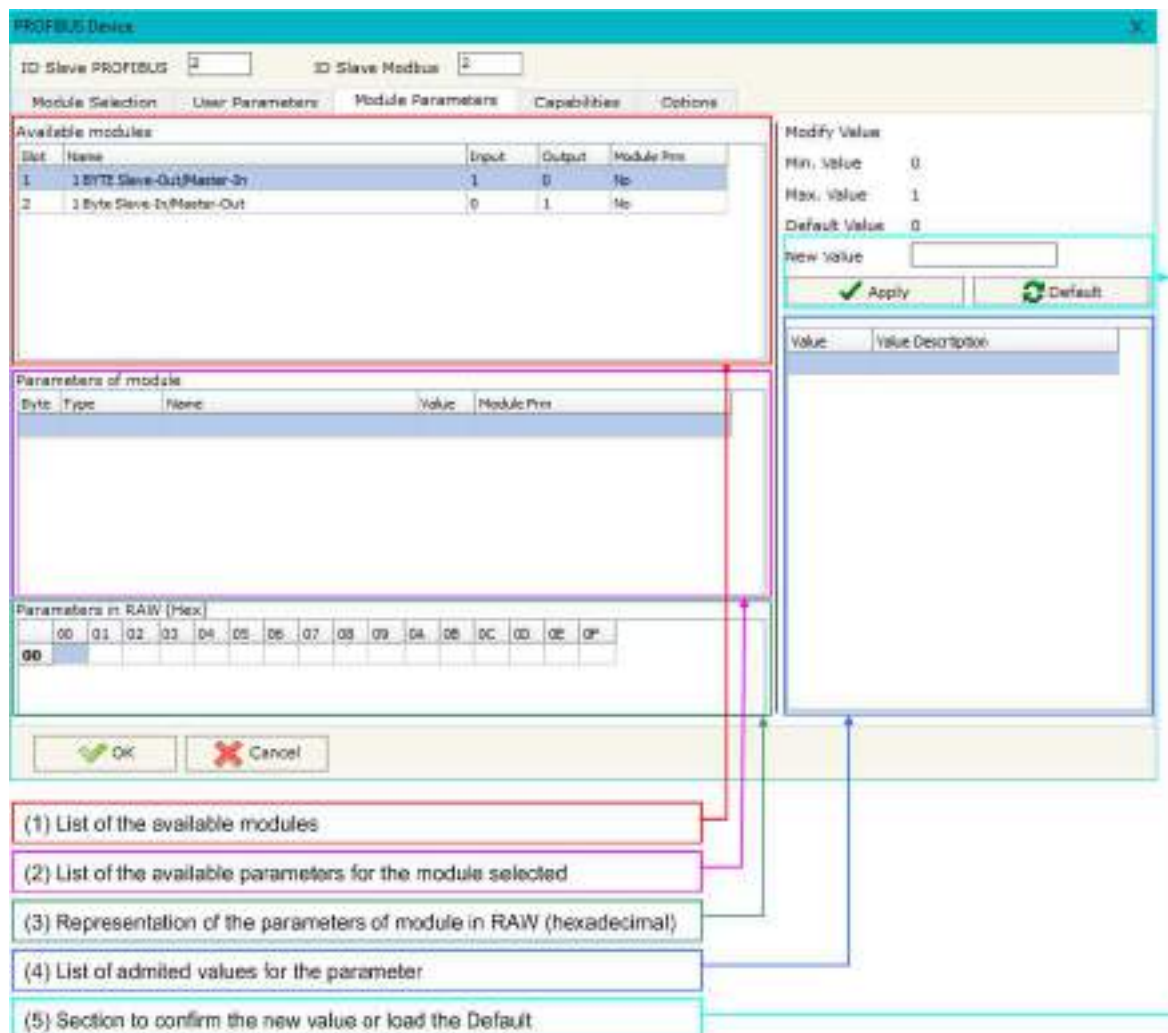

Figure 11: “PROFIBUS Device – Module Parameters” window
The section “Module Parameters” is used to modify the parameters of the Modules (Fig. 11).
- The List of all Module selected in the GSD file (“Available modules”) (Fig. 11, point (1));
- The List of all Parameters available for the Module selected (“Parameters of module”) (Fig. 11, point (2));
- The Configuration of all parameters in RAW for the Module selected (“Parameters in RAW (Hex)”) (Fig. 11, point(3));
- The admitted value for the selected parameter. It is possible to select the value desired and confirm it with the “Apply” button. If no value appears in this table, the “Min Value” and “Max Value” are the limit of the parameter. (Fig. 11, point(4));
- The “Apply” button is used to confirm the new value of the parameter, the “Default” button is used to load the factory value for the parameter. In “New Value” edit box it is possible to set the new value. (Fig. 11, point(5));